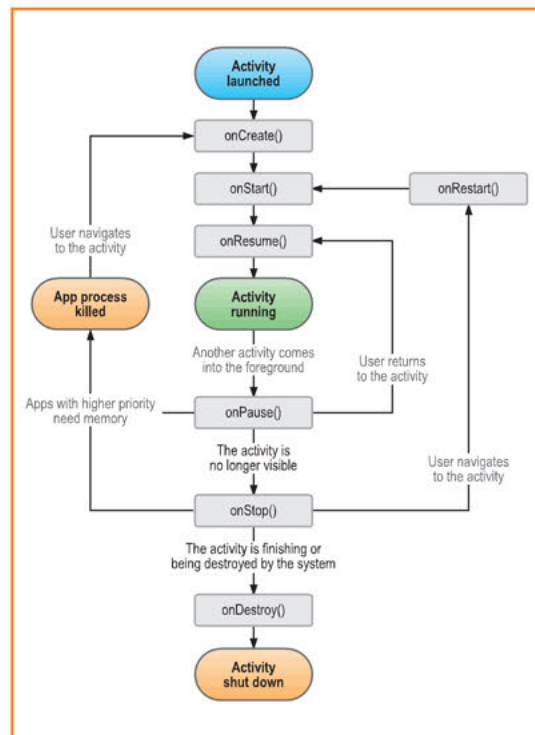

Figure 13.
**Figure 13** illustrates the life cycle of an activity, typical in a multitasking system. Our ANDROECG application comprises three activities:
**MainActivity:** Android creates this activity when the application is runs and executes the `onCreate()` method (Figure 13). This performs all the necessary initializations and creates, among others, the `BluetoothService` and `Timer1Service` services. The other methods (or functions) of the activity take care of the actions on the touch buttons and the menu functions. The last two methods take care of the messages sent when the other activities close and by the services in order to react accordingly and/or inform the user (e.g. loss of BT connection).